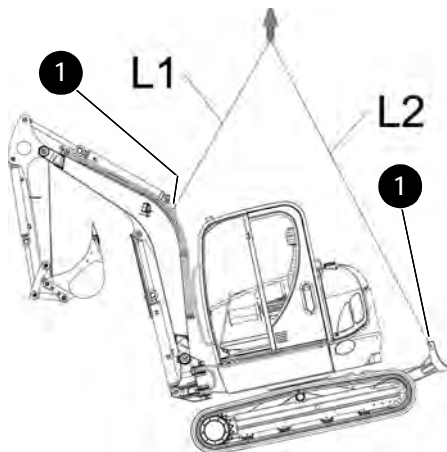

Figure 3-55 Machine Lifting Points
- While lifting, maintain the center-of-gravity and balance points on the machine. See Figure 3-55.
- **Model 753Z:** length L1 on the lifting sling for the boom must be 6'2" (1.9 m) long; length L2 on the lifting sling must be 15'1" (4.6 m) long. See Figure 3-55.
- **Model 803:** length L1 on the lifting sling for the boom must be 5'2" (1.6 m) long; length L2 on the lifting sling must be 15'7" (4.8 m) long. See Figure 3-55.